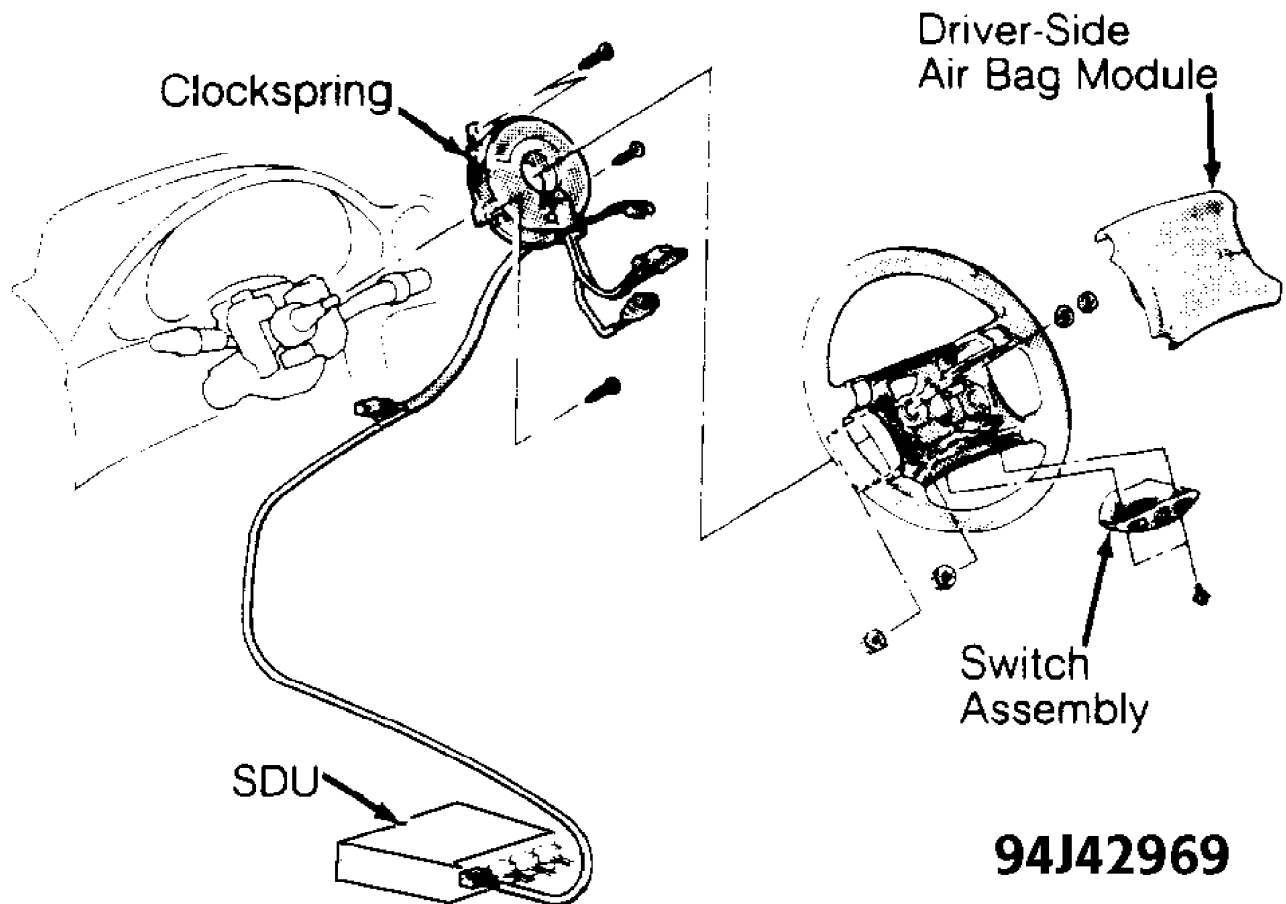

Fig. 4: Exploded View Of SRS Steering Column Components
2) Ensure front wheels are in straight-ahead position and steering wheel is locked. Remove air bag module nuts from back of steering wheel. See Fig. 4. Lift air bag module for access to clockspring connector at air bag module. To disconnect clockspring connector from air bag module, spread connector open and pry it outward with a screwdriver. Remove air bag module.